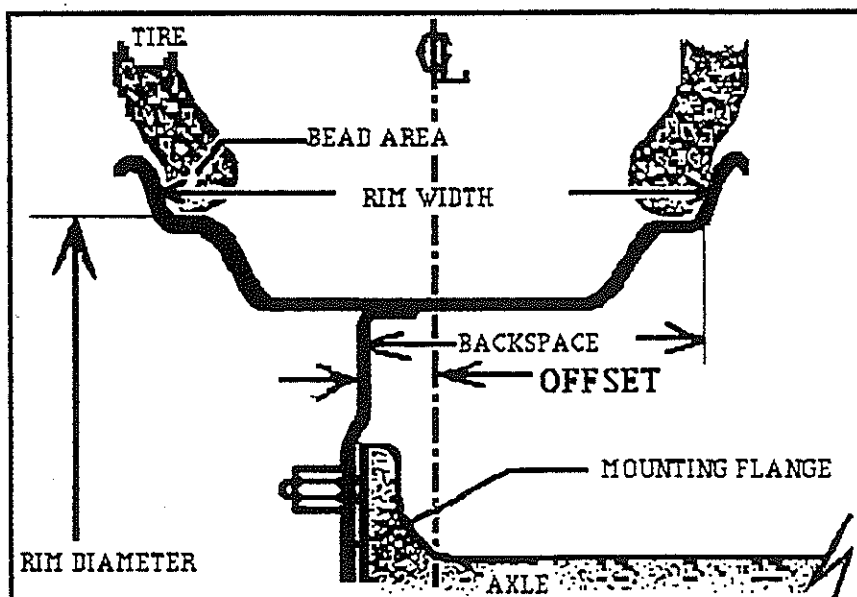

FIG. 1 WHEEL CROSS SECTION
1. **BEAD AREA:** The area where the bead of the tire seats. See figure 1 below.
The difference between positive and negative **offset** is so confusing to most people, that many dealers and manufacturers will ask for the desired **backspace** instead. This, with the **rim width** defines the design of the wheel. Looking again at FIGURE 1, you can see that **backspace** is one half of the **rim width** plus (or